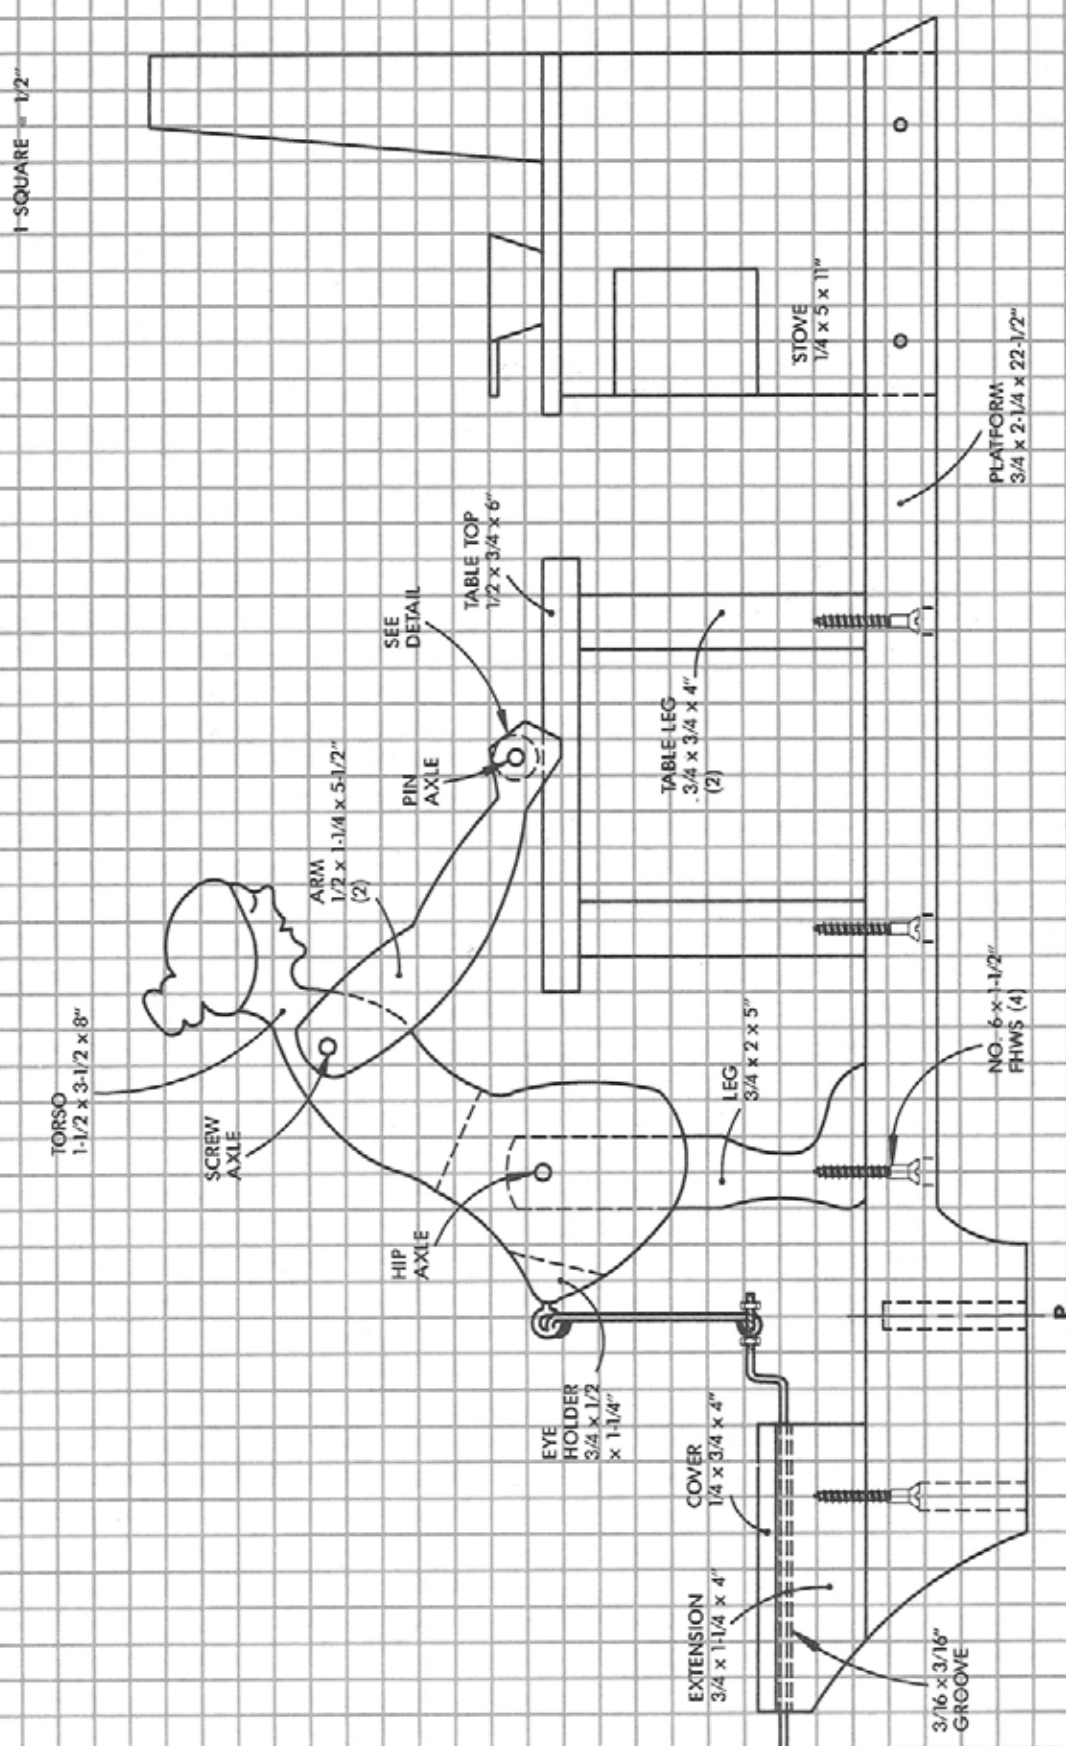

Figure 4-5. Plan for Baking a Pie whirligig.
1. Mark on the platform where holes must be drilled and objects placed as indicated in the drawing. Cut the platform and drill holes to secure the extension (at 2 in.), the pivot socket (at 4-1/2 in.), the screws for the woman's leg (at 6-1/2 in.), and the table legs (at 9-7/8 and 14-1/8 in.) Cut a 1/4 in. slot for the stove back 5-1/4 in. from the rear of the platform (Fig. 4-5).